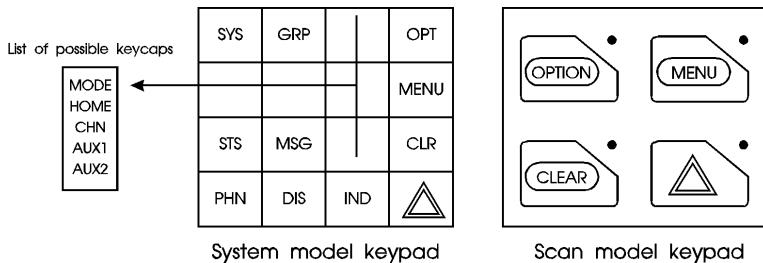

Figure 5 - Standard JAGUAR 725M Keycaps Configuration
The Standard keycap package for the System radio includes five (5) labeled keycaps (MODE, HOME, CHN, AUX1 and AUX2) and six (6) blank keycaps, which can be placed on any of the five key locations (numbers 3-6 and 9) shown in Figure 5. The keycap represents the primary function programmed for that key location. See the **Key Descriptions** section for a description of the primary function associated with these five (5) keycaps.